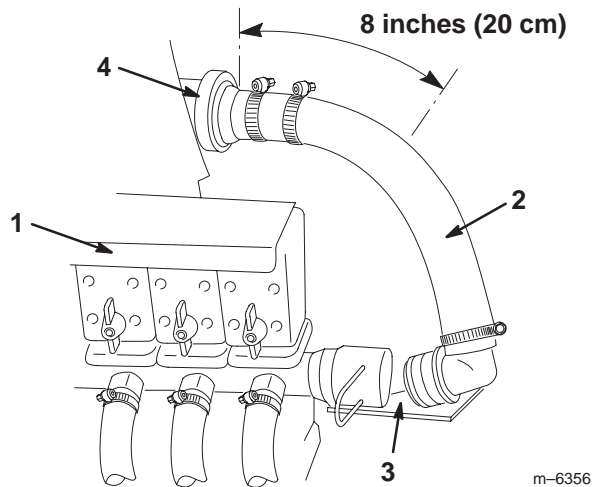

Figure 8
1. Remove the retainer securing the end of the boom supply hose connected to the tee located to the right of the boom supply valves and disconnect it (Fig. 8).
2. Cut the boom supply hose 8 inches (20 cm) to the right of the flow meter (if equipped) or 45 inches (114 cm) from the supply tee (located directly behind the boom valves) using a hacksaw (Fig. 8). Remove the hose clamp from the loose end and discard the hose and fitting.